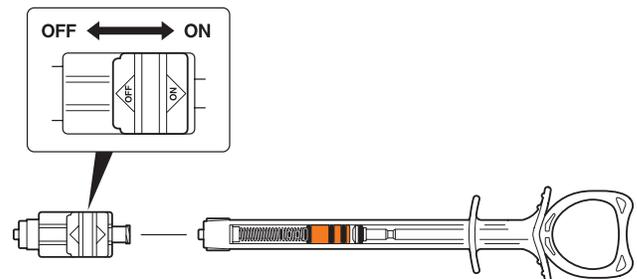
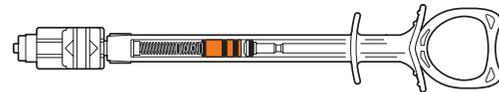

Figure 1 – Inflation lock attachment and positions
Figure 2 – Plunger all the way in
1. Prepare the inflation device. Note the three referenced inflation syringe plunger positions (Figures 2, 3, and 4).
- 1.2. If desired, attach the optional inflation lock to the tip of the inflation syringe (Figure 1).
- 1.3. Begin with the inflation syringe plunger all the way in (Figure 2) and the inflation lock in the ON position (Figure 1).
- 1.8. While still pointing the syringe tip towards the ceiling, push the plunger all the way in (Figure 2), to purge all air and fluid from the syringe.